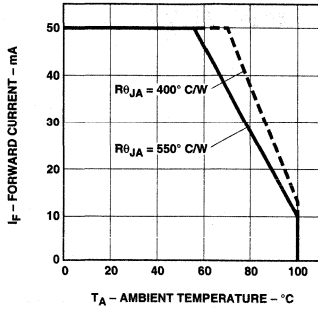

Figure 5. Maximum Forward DC Current vs. Ambient Temperature. Derating Based on  $T_{JMAX} = 110^{\circ}C$ .
3. Derate linearly as shown in Figure 5.